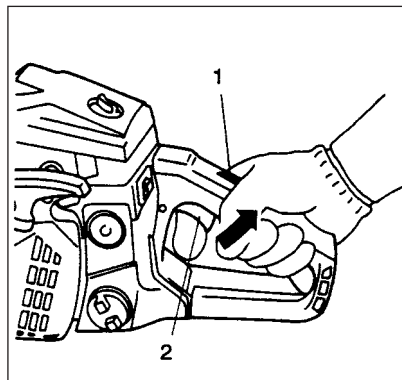

Fig. 2-4B
4. When you hear the engine want to start, with the safety trigger (2) pressed pull throttle trigger (4). This will release the throttle from starting position to run position and will return the choke knob to run position automatically. (Fig. 2-4B)